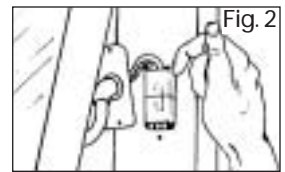
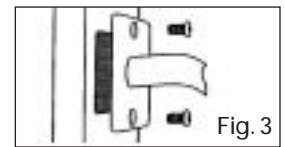

Fig. 2
Fig. 3
2. Rest the door on the bottom of the frame. Connect the door plug into the frame, and push to secure (figure 2). Fasten the cover plate where the door cord exits (figure 3). (Note: Door cord only applies to heated door models.)